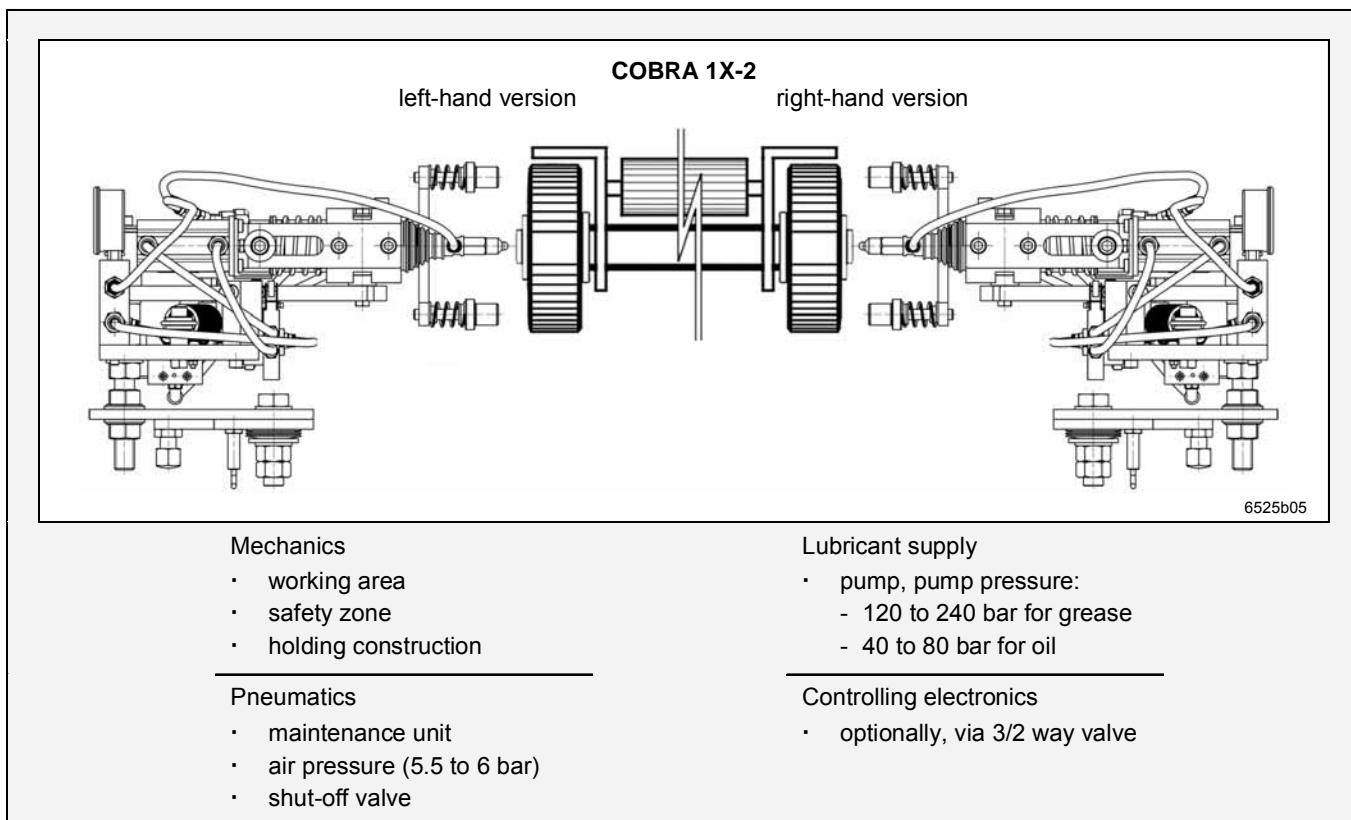

Fig. 3 Schematic of a lubrication system, view in direction of dispense
- Opposite positioning of two synchronized operating lubrication devices (example, see fig. 3) in order to avoid a horizontal excursion of the conveyor belt.